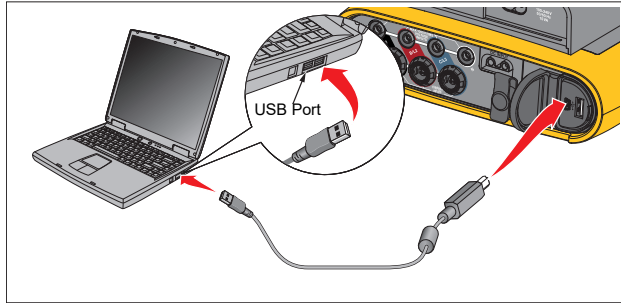

Figure 11. Power Logger to PC Connections
3. Connect the USB cable to the USB ports of the computer and the Logger. See Figure 11.